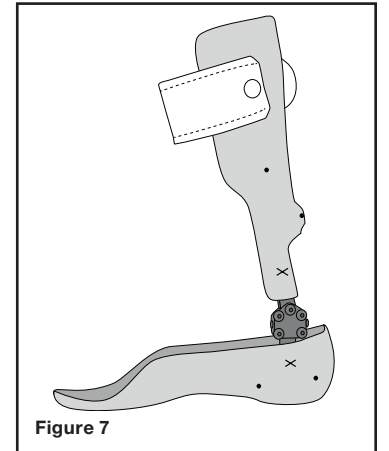

Figure 7
9. If desired for additional stirrup or upright retention, mark any additional holes for assembly on "Y" stirrup attachment and proximal upright. See Figure 7.